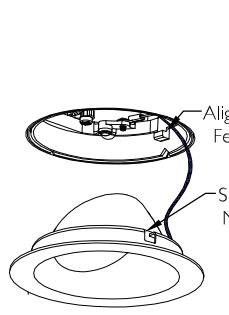

Fig.8
- 2b. Accent: Align smaller notch in Trim Section with alignment feature in Finishing Section (C3L085A\_SERIES) as shown in Fig. 8 and guide together until magnets engage.